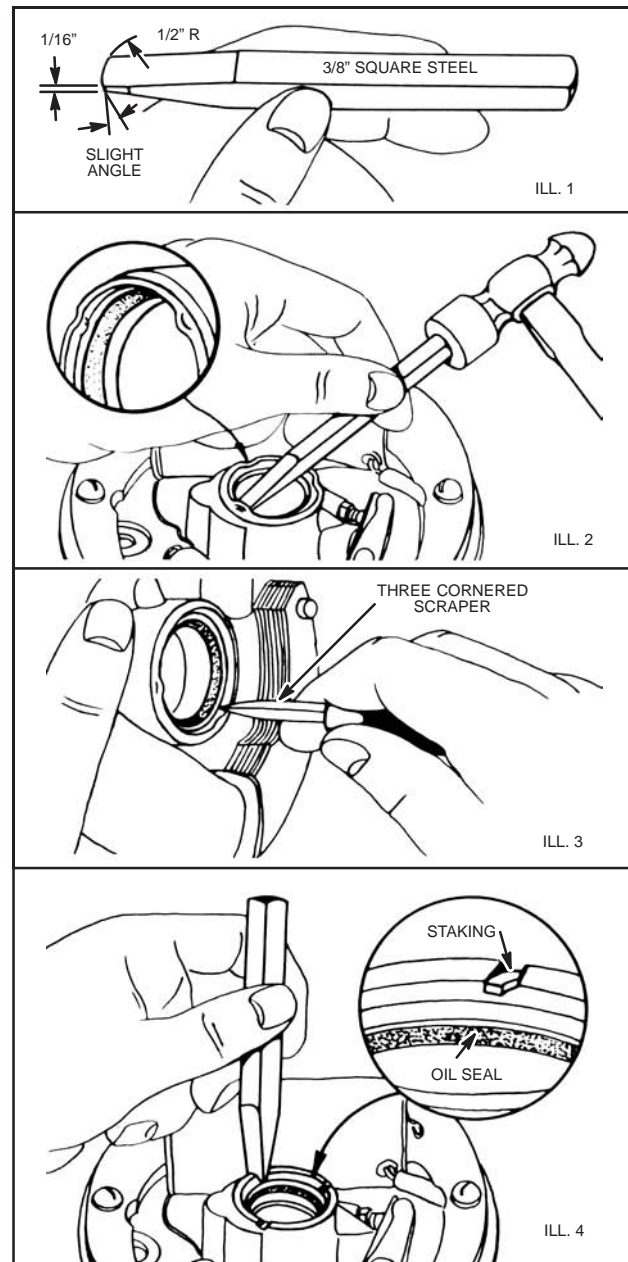

Fig. 914 – REMOVING & REPLACING OIL SEAL
First grind a chisel or old screw driver as shown in, Fig. 914, Ill. 1 Then inspect the raised boss as shown in Fig. 914, Ill. 2. There will be two (2) or three (3) places where the boss has been peened or staked in. With the sharp edge of the chisel against the oil seal, drive these back as shown. Then with a sharp pointed scraper, scrape all burrs away until the counterbore is round and smooth, Fig. 914, Ill. 3. this is to permit the new oil seal to be inserted without distortion. Remove the old oil seal with a screw driver.
Drive in the the new oil seal until it stops against the shoulder in the counterbore. A piece of pipe or rod, slightly smaller in diameter than the oil seal, should be used as a driver. Then use the chisel to stake orpeen a portion of the boss in three evenly spaced places, Fig. 914, Ill. 4. This is to prevent the oil seal from working out. Do not stake so deep that the oil seal is distorted.